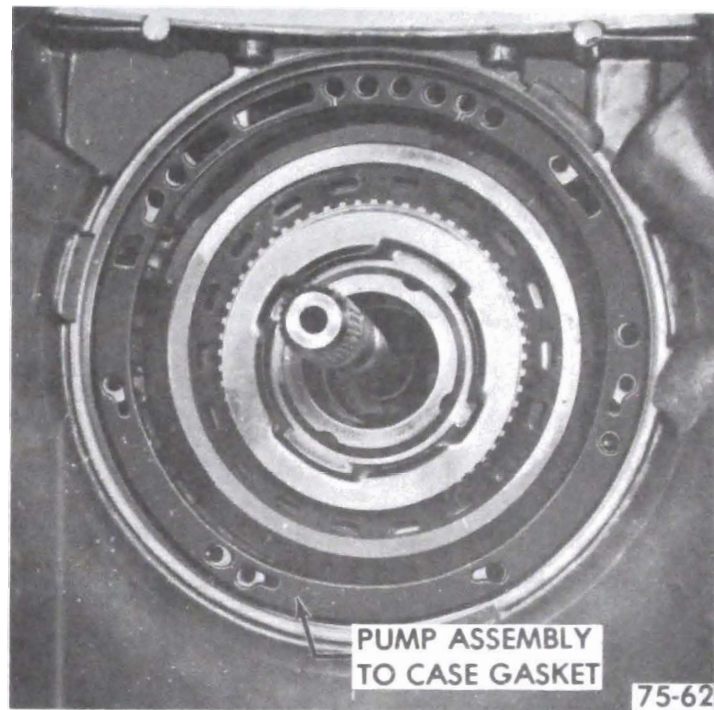

Figure 75-249
1. Install new pump assembly to case gasket. See Figure 75-249.